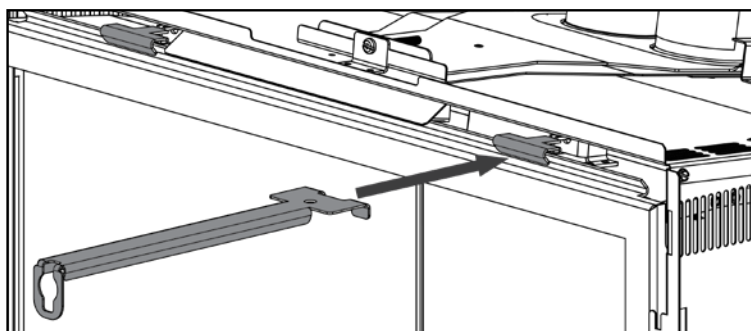

Fig. 3-3
2. Release the top left and right door latches, located at the top of the door (**Fig. 3-3**). Tilt forward and lift from slots.